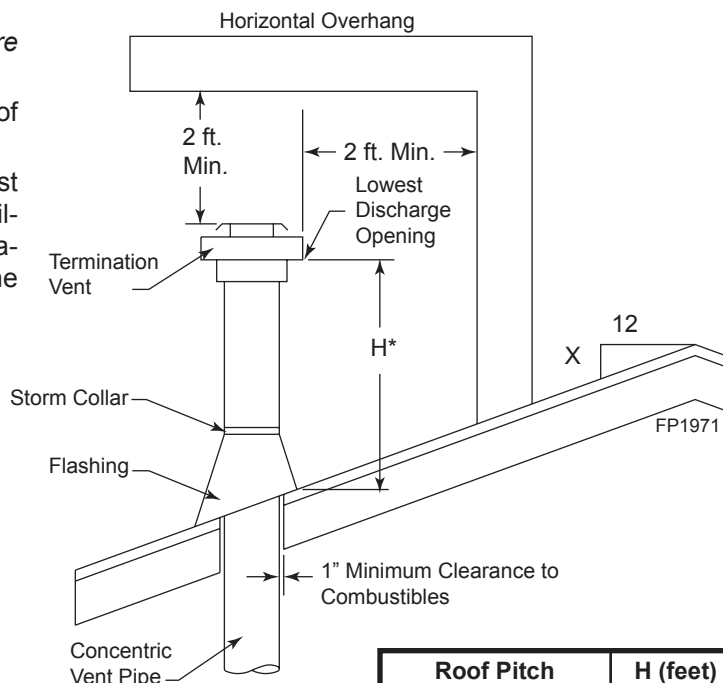

**Figure 22 -
- For the minimum height of the vent above the highest point of penetration through the roof refer to Page 17, *Figure 22*.